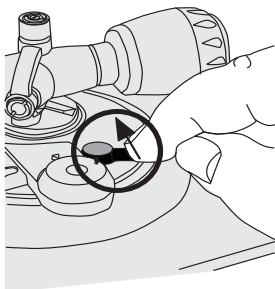

Fig. 9 Unlocking the adjustment ring
- 1 Turn the locking lever counterclockwise (Fig. 9).